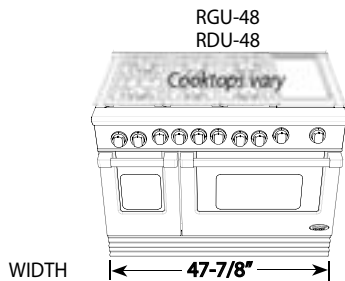

Fig. 13 Product dimensions and clearances
7. When there is less than a 12" clearance between combustible material and the back edge of the range (above the cooking surface), a DCS Standard backguard or Full backguard must be installed. When clearance to combustible material is over 12" no backguard is necessary. RGU models are supplied with a matching BGRU-12xx standard backguard. For RDU and RGUC models, the backguard must be ordered separately, (see section 'Planning the installation'). See Fig. 13 for an illustration of all the installation options.
The backguard is located as shown in Fig. 14. Secure the backguard to the range (standard backguards) or the wall behind the range (full backguards). Specific instructions for installation can be found packaged with the backguard. See also "Planning The Installation" section. A backguard (standard or full) must be installed when there is less than a 12" clearance between combustibles and the back of the range (above the cooking surface). See Fig. 13.